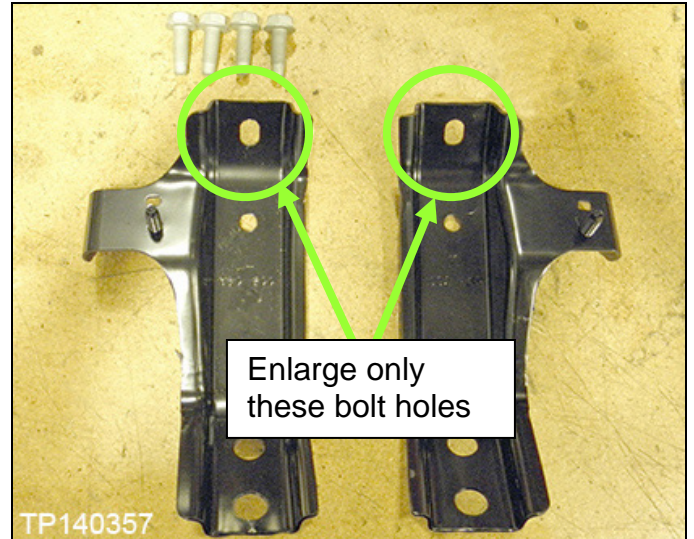

Figure 2
- b. With a ½" drill bit, enlarge the bolt holes indicated in Figure 2